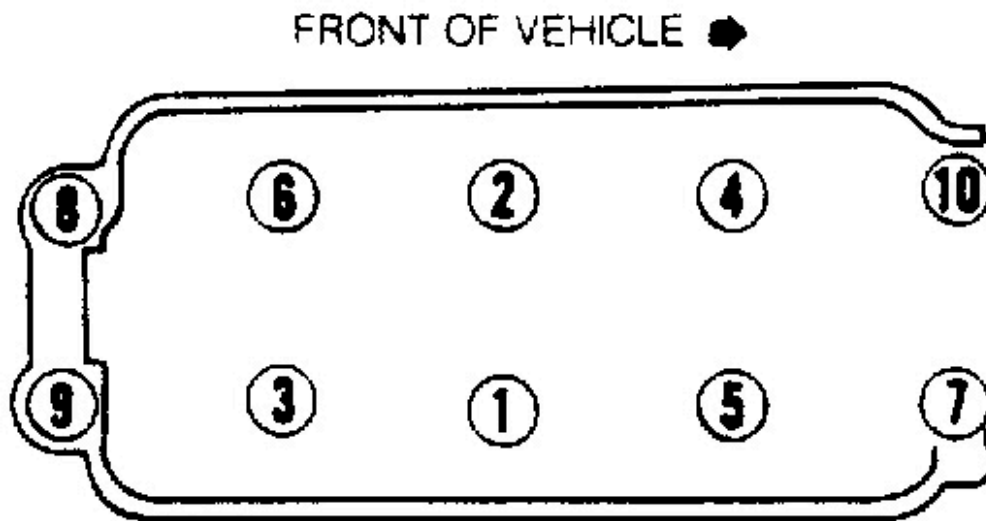

Fig. 3: Cylinder Head Tightening Sequence
7. Disconnect exhaust support bracket. Disconnect exhaust pipe from manifold. Remove cylinder head bolts in reverse sequence of tightening. See **Fig. 3**. Remove cylinder head with intake manifold attached.
3. Lubricate head bolt threads and bottom of bolt heads with engine oil. Using new head gasket, install cylinder head. Tighten head bolts in 3 steps. Repeat 3rd step for final tightening. See **Fig. 3**.